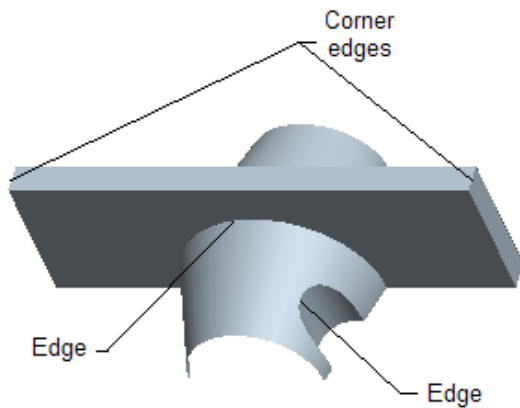

Figure 13-100 Edges selected to create rounds
- h. Create the round features, refer to Figures 13-100 through 13-102.
1. Choose the **Round Tool** from the **Engineering Features** toolbar. Select the edge of the cylindrical slot, see Figure 13-100. The preview of the round is highlighted on the selected edge.
4. Select the four edges that are having radii of 18. The two edges are the edges that are formed by merging the two blend surfaces with the base surface and the two edges are the top corners of the base surface, see Figure 13-100.